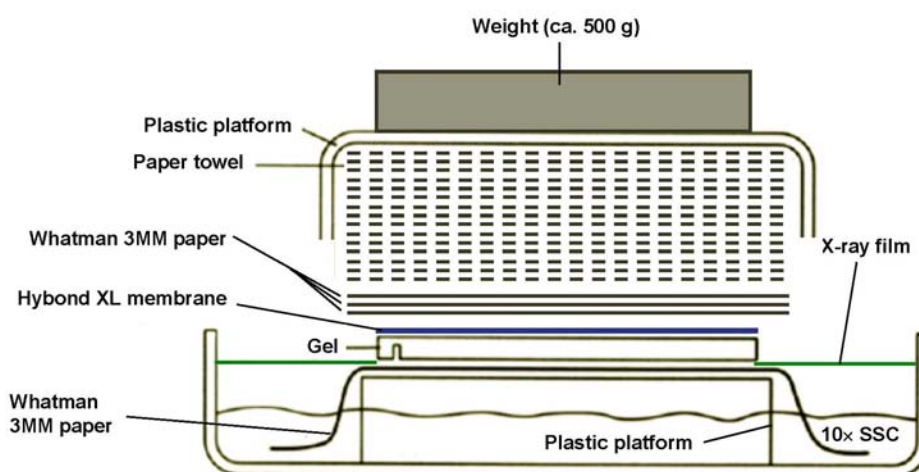

Figure 2. Setup for capillary blotting
1. A typical setup for capillary blotting is described as in Figure 2. Note: Always use gloves when handling the nylon membrane.